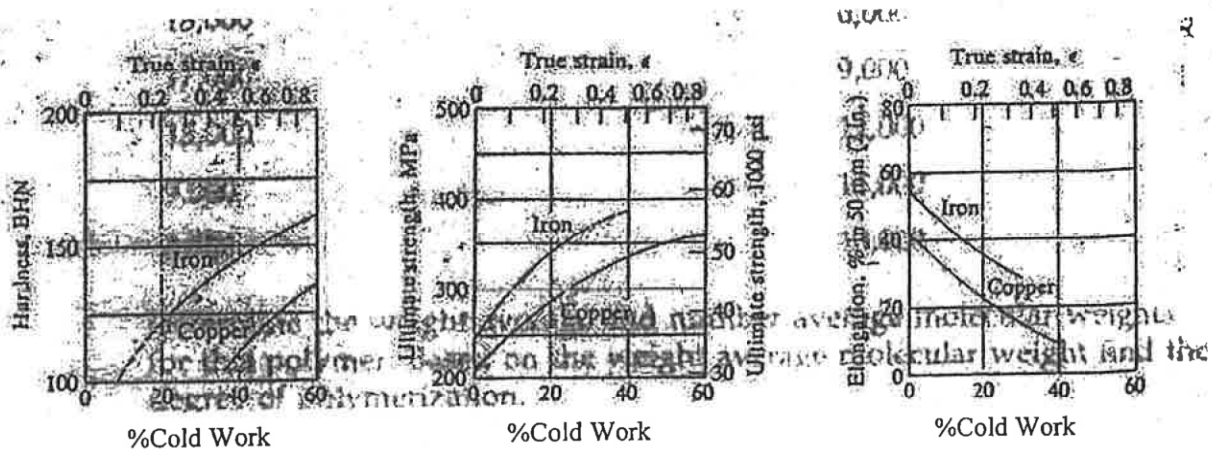

Fig 2. Cold Work vs Mechanical Properties (Iron and Copper)
5. (a) A copper wire must have a diameter 0.7 mm and an ultimate strength of >325 MPa (46,000 psi) together with a minimum ductility of 10% elongation in a tensile test. It is to be processed (drawing and annealing) from 10 mm diameter rod. Using the data in Fig 2, determine the diameter of the die to be used for the penultimate cold draw.